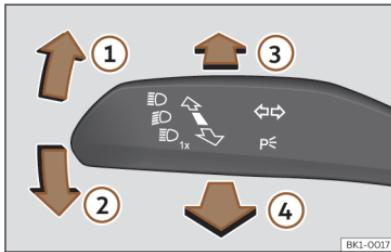

Fig. 104 Turn signal and main beam lever (depending on the version).
- From the base position, press the turn signal and main beam headlights lever forwards >>> **Fig. 104 ③**.
- EITHER:** if main beam assist is on, pull the turn signal light and main beam headlights lever back >>> **Fig. 104 ④**.